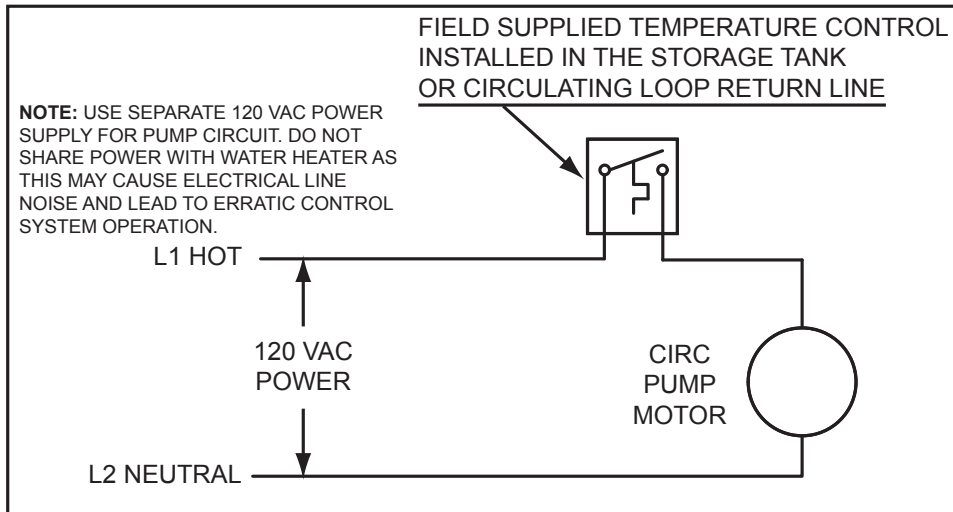
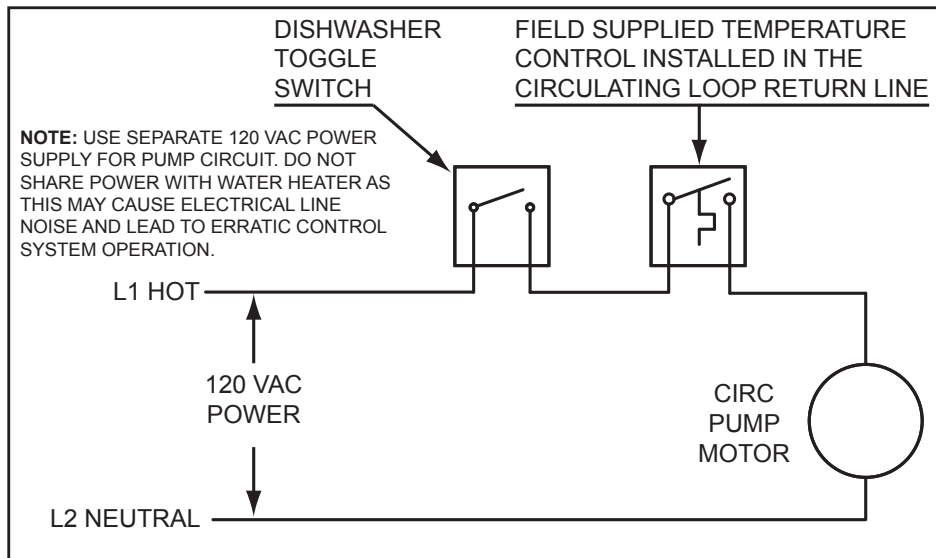

Figure 68. Circulating Pump Wiring Diagram - Storage Tank or Building Recirculation
Figure 69. Circulating Pump Wiring Diagram - Dishwasher Loop Toggle Switch
6. If a pump is being installed between a water heater and storage tank or on a building recirculation loop wire according to *Figure 68* (page 70).
7. If a pump is being installed in a recirculation loop between the water heater and a commercial dishwasher wire according to *Figure 68* or *Figure 69* (page 70).